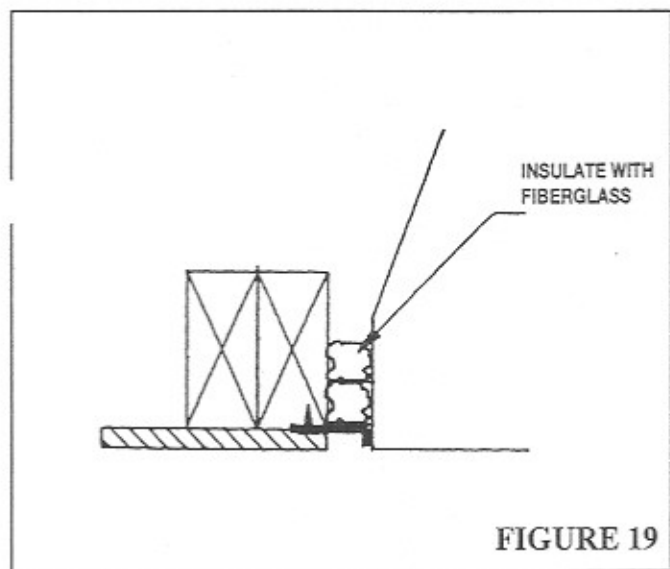

FIGURE 19
**WARNING: DO NOT PACK REQUIRED AIR SPACES WITH INSULATION OR OTHER MATERIALS (Except as shown in Figure 19 on Page 8).**
Carefully inspect the Outside Air and Gas Line to ensure a tight fit. Use the caulking material to carefully seal around each of them to ensure that no cold air will leak into the firebox. Insulate the gap left between the sides of the fireplace as illustrated in Figure 19. If the gap is too small to effectively insulate, it may be caulked with the high temperature silicone or equivalent caulking material.